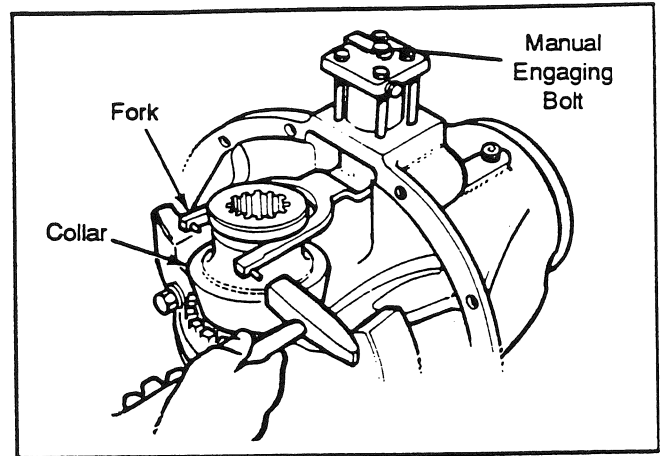

Fig. 94
9. Hold the collar in the locked (engaged) position. Tap the two roll pins in the fork ends until they are level with the outer faces of the yoke (see Fig. 94).